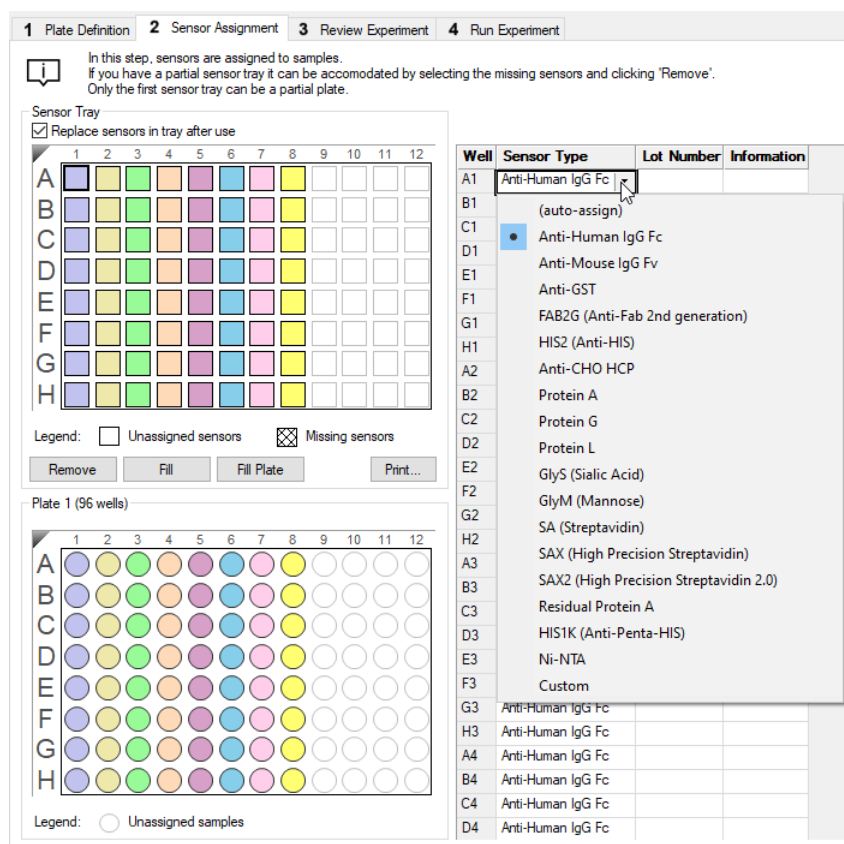

Figure 6-32: Changing Biosensor Types
- Select a cell in the **Sensor Type** table column, click the down arrow and select a biosensor type from the drop-down list (see Figure 6-32).
- All wells in the **Sensor Type** column will automatically populate with the biosensor type selected, (Figure 6-32). To designate reference biosensors, select the desired biosensors in the **Sensor Tray Map**, right-click and select **Reference**. The reference biosensors are marked with an **R**.